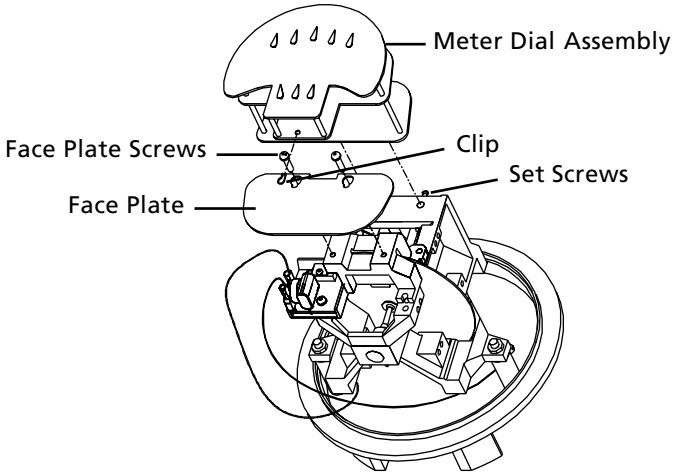

Figure 7. Attaching Face Plate and Meter Dial Assembly
9. Replace the face plate and face plate screws. See Figure 7.
10. Replace the meter dial assembly. See Figure 7.